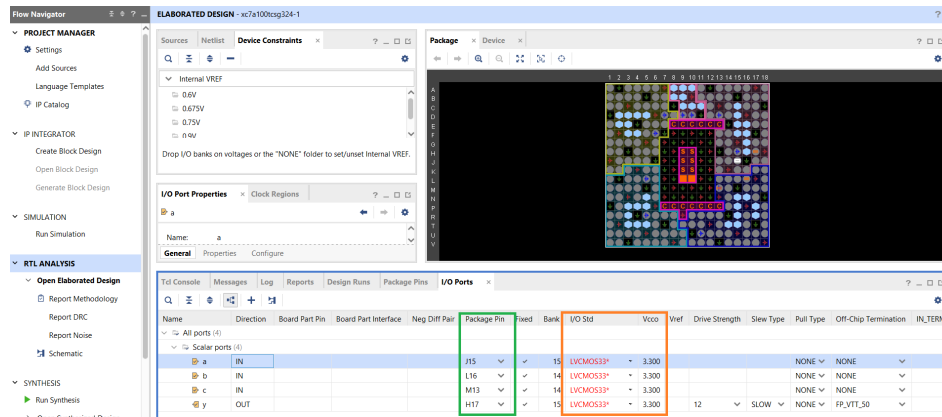

Fig. 2.7: Assigning Package pins on Vivado
1. In the project manager bar, click on *Open Elaborated Design*. A dialog box will appear, click on *Ok*. The I/O ports window will open (Fig. 2.7), (if the I/O ports box does not appear then go to *Layout* and select *I/O planning*). Open the **I/O ports** tab and assign your input output pin connections under **Package Pin** according to Fig. 2.7